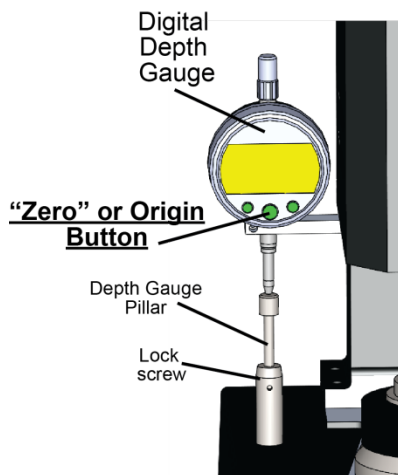

Figure 16: Digital Depth Gauge
3. Place the digital gauge on its pillar and set it to zero by pressing the **zero** button. Refer to Figure 16 (next page).